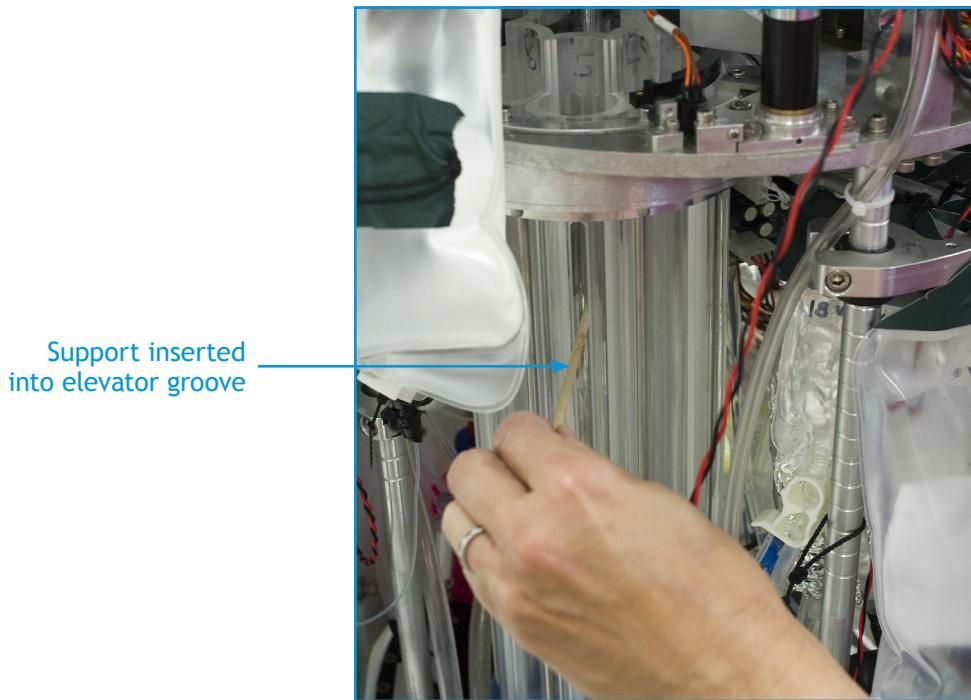

Figure 3-18: Support for loading pucks
6. Place a wooden or plastic support into the elevator groove and all the way into the tube. Move the stick to the top of the tube. See Figure 3-18.